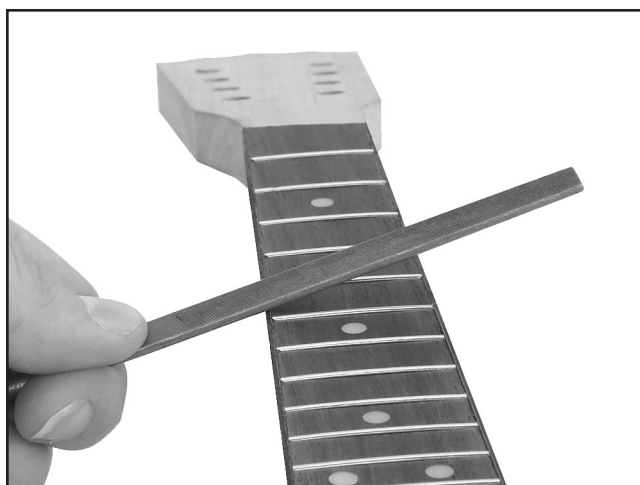

Figure 17. Filing fretboard binding.
1. Use a fine machinist's file to make the binding even with the fretboard surface as shown in **Figure 17**. File up to the edge of the frets.